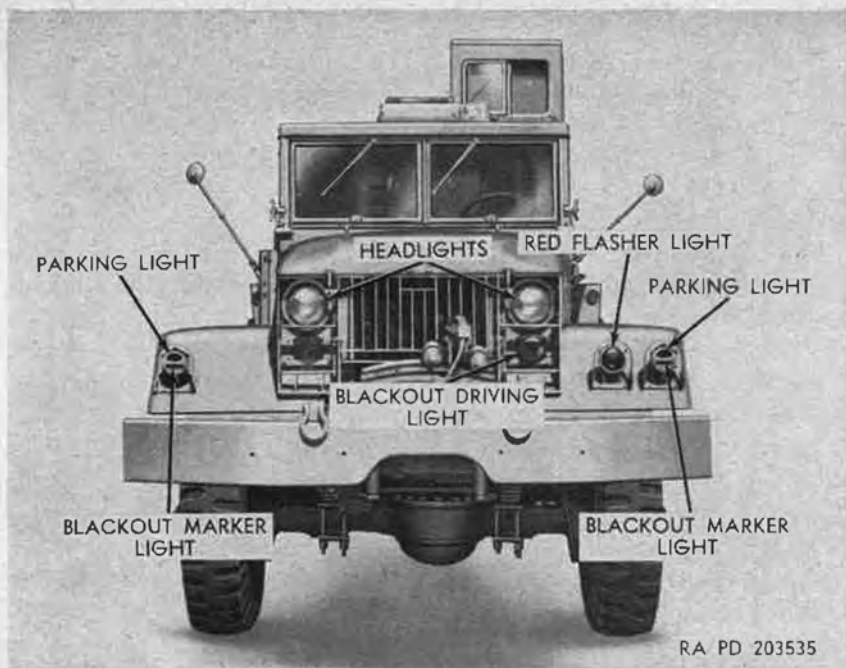
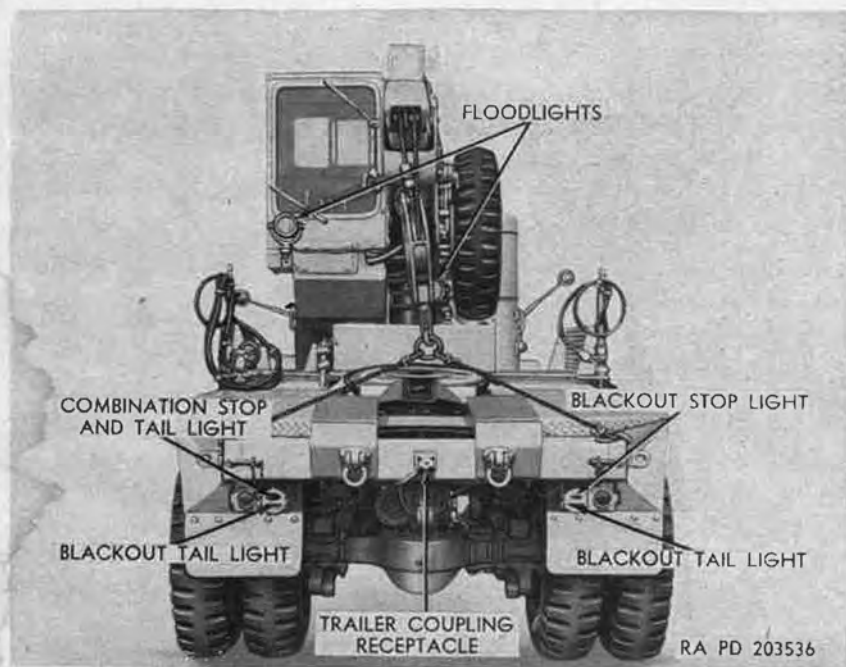

Figure 69. Lights mounted on front of truck.
Figure 70. Lights mounted on rear of truck.
b. Blackout Marker Position. Move main switch lever counterclockwise from OFF to the BO MARKER position. This energizes circuits for blackout marker lights (fig. 69), blackout stoplight (fig. 70), and blackout taillights. Move auxiliary switch lever clockwise from OFF position for dim or bright instrument panel lights.
c. Blackout Drive Position. Move mechanical switch lever counterclockwise to UNLOCKED MAIN SWITCH position and hold in that position while moving main switch lever counterclockwise from OFF to BO DRIVE position (fig. 66). This energizes circuits for blackout driving light (fig. 69), blackout marker lights, blackout stoplight, and blackout taillights. Move auxiliary switch lever clockwise from OFF position for dim or bright instrument panel lights.
d. Stoplight Position. Move mechanical switch lever counterclockwise to UNLOCKED MAIN SWITCH position and hold in that position while moving main switch lever clockwise from OFF to STOPLIGHT position (fig. 66). This energizes the circuit for the service stoplight (fig. 70) for operation during daylight hours. Move auxiliary switch lever clockwise from OFF for dim or bright instrument panel lights.
e. Service Drive Position. Move mechanical switch lever counterclockwise to UNLOCKED MAIN SWITCH position and hold in that position while moving main switch lever clockwise from OFF to STOPLIGHT position (fig. 66). Release mechanical switch lever and move main switch lever further to the right to SER DRIVE position. This energizes circuits for service headlights (fig. 69), service taillight (fig. 70), and service stoplight. Move auxiliary switch lever clockwise from OFF position for dim or bright instrument panel lights.
f. Parking Position. Move mechanical switch lever counterclockwise to UNLOCKED MAIN SWITCH position and hold in that position while moving main switch lever clockwise from OFF or STOPLIGHT position. Release mechanical switch lever and move main switch lever further to the right to SER DRIVE position. Move auxiliary switch counterclockwise from OFF to PARK position. This energizes circuits for parking lights (fig. 69), dim instrument panel lights, and service stoplight.